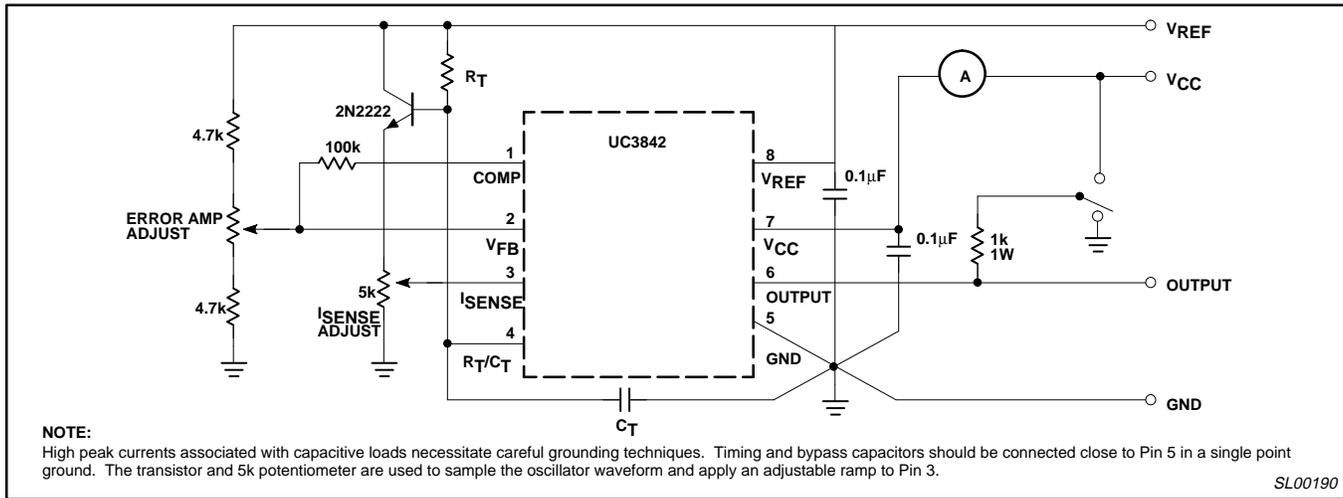

Figure 2. Open-Loop Test Circuit
**Pin 2: Error amplifier inverting input.** The non-inverting input is fixed at the reference voltage of 2.5V requiring that the feedback voltage be equal to this value under normal operating conditions. Normally a voltage divider is connected between the supply regulated output terminal and ground with a minimum of 1mA of divider current and set for 2.5V out to the error amplifier. Voltage spikes must not exceed VCC positive and 0.7V negative on the feedback line. Open loop testing of the UC3842 in a current mode supply may be implemented as shown in Figure 2 with a potentiometer connected between VREF and ground. Duty cycle may be varied then by varying V2 around the 2.5V level. A synchronous ISENSE signal must be supplied, as shown, to provide duty cycle turn-off.